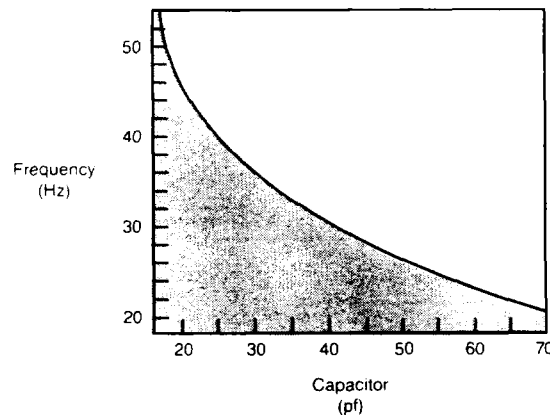

Figure 1
7. The LCD ϕ pin can be used in two modes, driven or oscillating. If LCD ϕ is driven, the circuit will sense this condition and pass the LCD ϕ input to the Backplane output. If the LCD ϕ pin is allowed to oscillate, its frequency is inversely proportional to capacitance (see Figure 1) and the LCD driving waveforms have a frequency 2⁸ slower than the oscillator itself. The frequency is nearly independent of supply voltage. If LCD ϕ is oscillating, it is important to keep coupling capacitance to backplane and segments as low as possible. Similarly, it is recommended that the load capacitance on LCD ϕ be as large as is practical.
8. There are two obvious signal races to be avoided in this circuit, (1) changing Data In when Clock is falling, and (2) changing Load when Clock is falling.